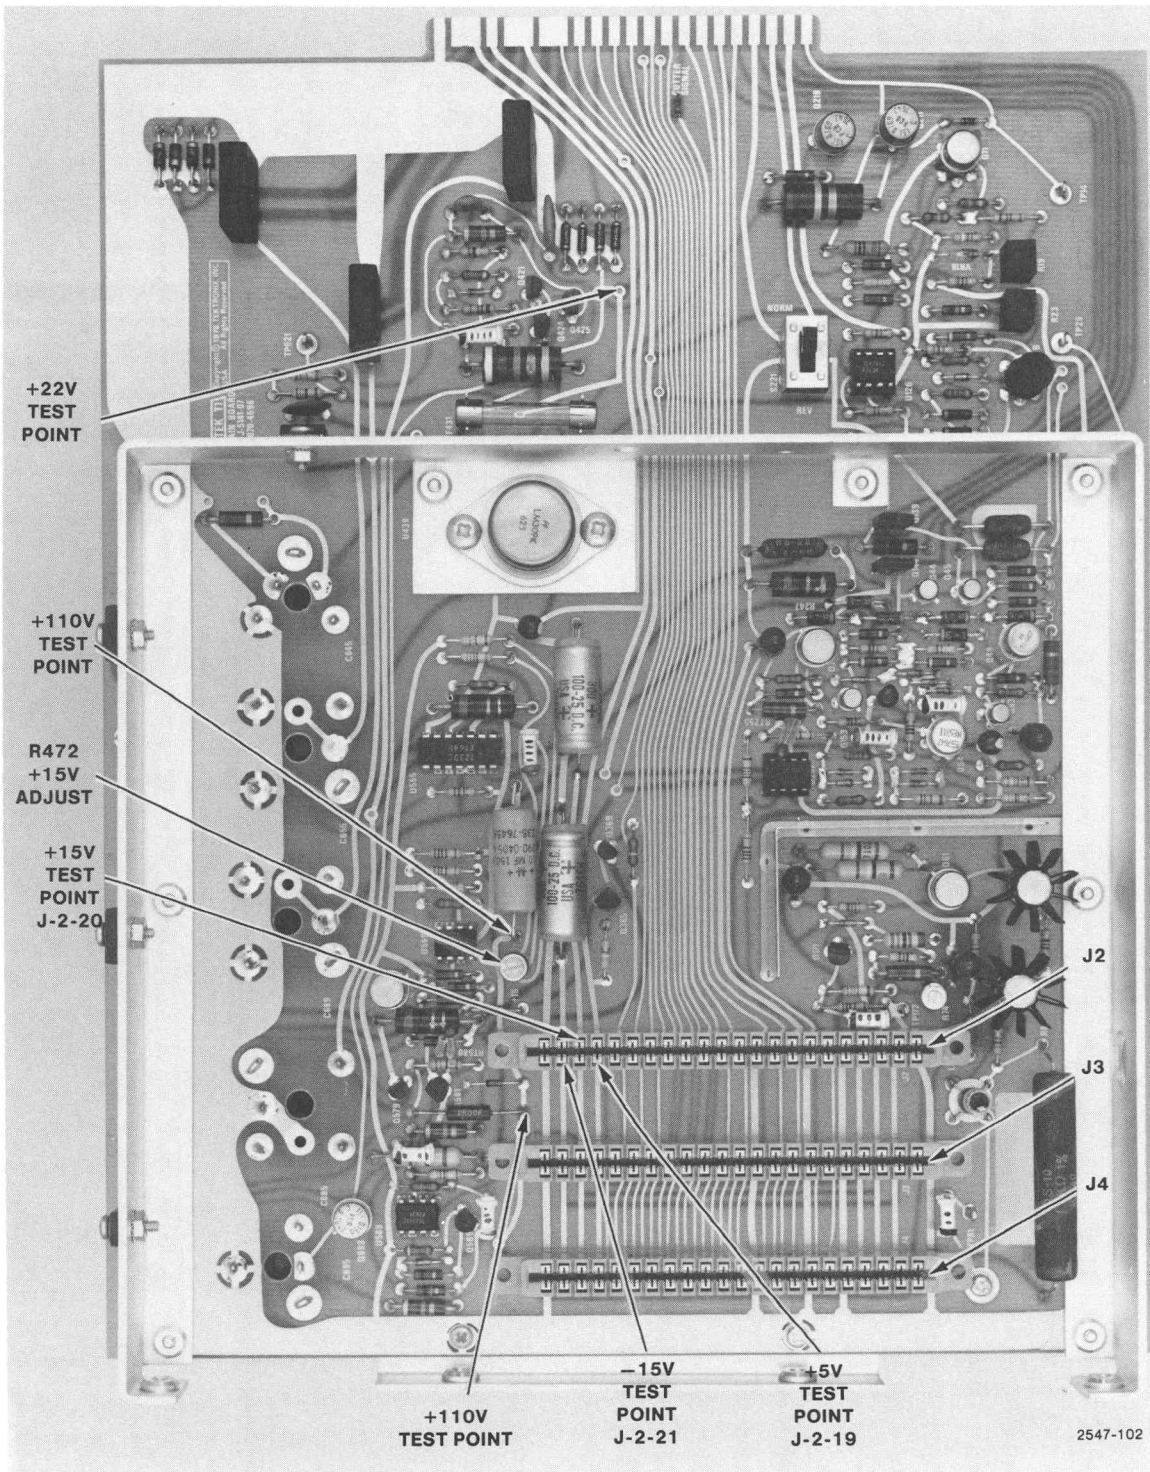

Figure 4-17. Power Supply Test Points and Adjustments.
- 1) Connect the precision dc voltmeter to J2-20 (Figure 4-17) on the Main board.
- 1) CHECK—the +15 volt supply at J2-20 (Figure 4-17) for a voltage between +14.85 and +15.15 volts, and a ripple of less than 50 mV.
- 4) CHECK—the +110 volt supply at the J3 end of R583 (Figure 4-17).